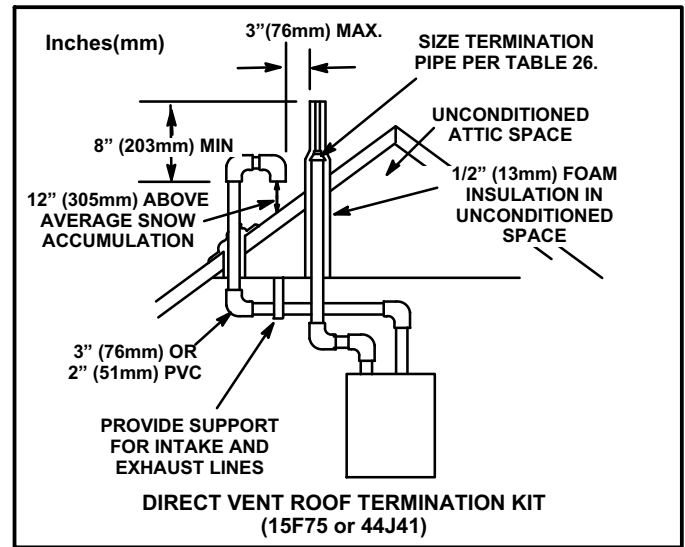

FIGURE 29
Intake and exhaust pipes may be routed either horizontally through an outside wall or vertically through the roof. In attic or closet installations, vertical termination through the roof is preferred. Figures 29 through 36 show typical terminations.
3. On roof terminations, the intake piping should terminate straight down using two 90° elbows (See figure 29).